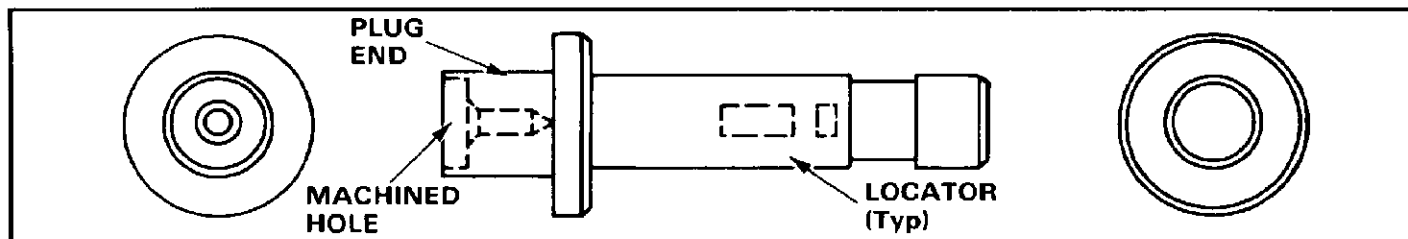

Fig. 1
2. DESCRIPTION (Figures 1 and 2)